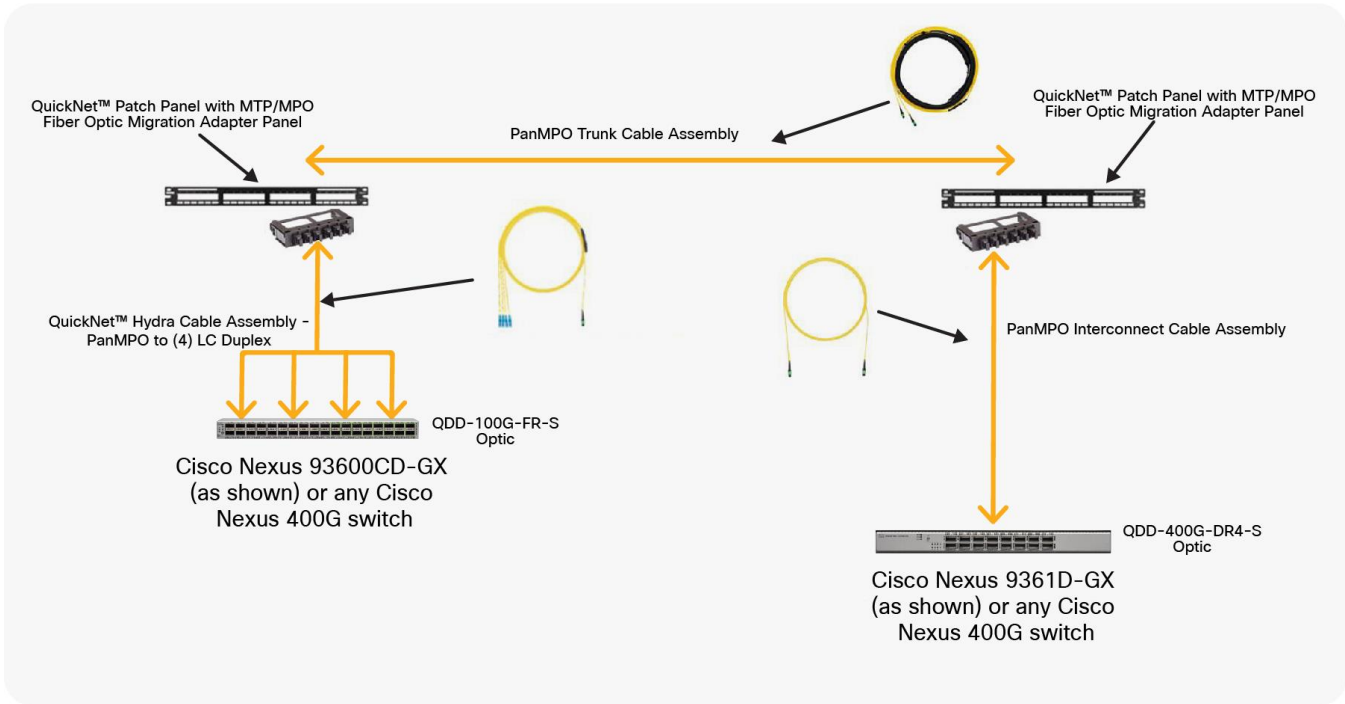

Figure 8.
Connecting a Cisco Nexus 9316D-GX switch to a Cisco Nexus 93600CD-GX switch using QSFP-DD-to-QSFP-DD PanMPO to (4) LC duplex connectivity for single-mode connectivity is shown in Figure 8.